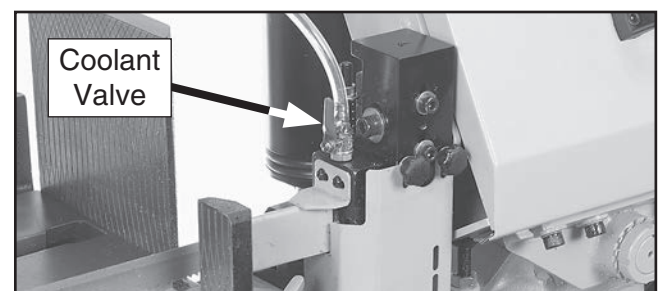

Figure 20. Coolant valve (1 of 2) opened.
7. Check function of saw headstock hydraulics by pressing raise headstock button (☞, E) setting feed dial (B) at a number over "0", then pressing lower headstock button (☞, F).
9. Open coolant valves (see **Figure 20**).